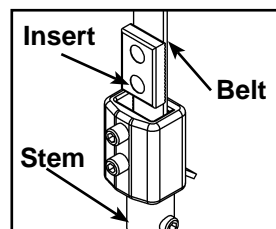
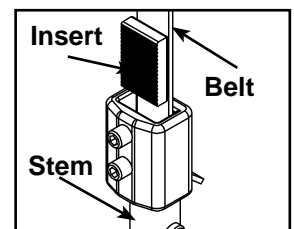

Figure 13A
Figure 13B
- H. Verify belt and insert are installed properly, as shown in Figure 13A. **NOTE:** Do not install the insert backwards as shown in Figure 13B.